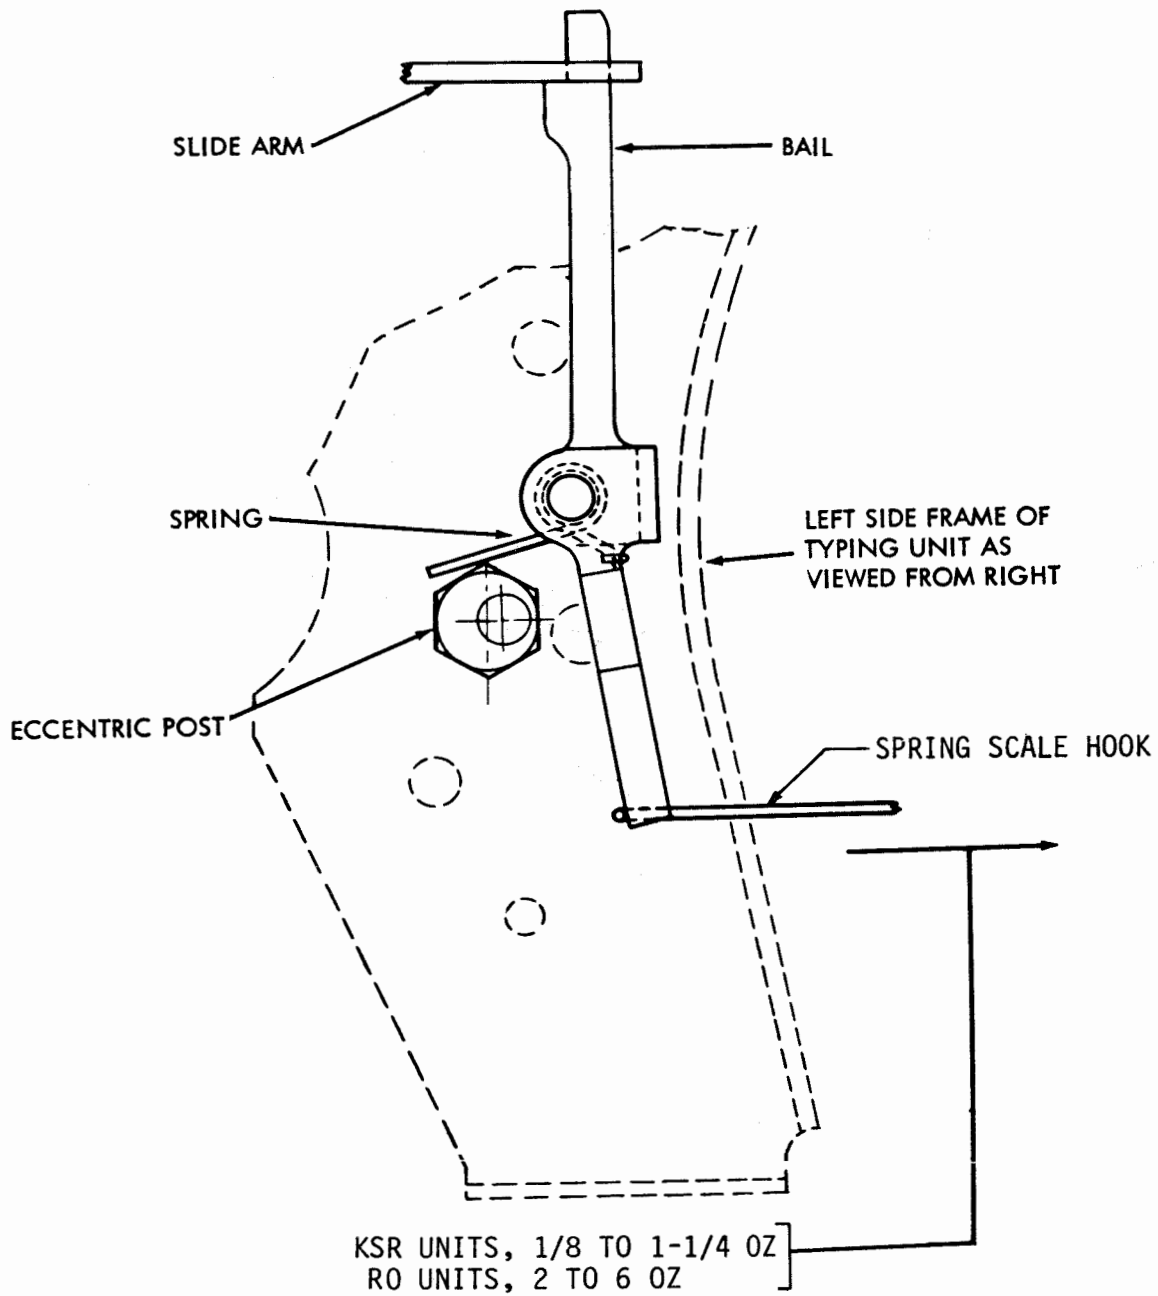

Figure 6-174. Form Feed-Out Torsion Spring
(1) Refer to figure 6-174.
(2) Disengage line line feed clutch trip lever.
(3) Attach spring scale hook at lower end of bail.
(4) Force required to start bail moving should be between 1/8 and 1-1/4 ounces for KSR units or between 2 and 6 ounces for RO units.
(5) If spring scale reading exceeds specified limits, install new spring.